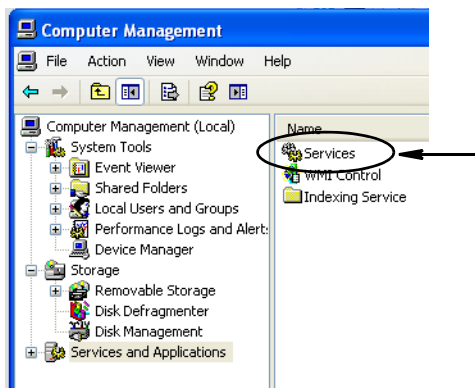

FIG. 55
- c. Double click on Services (FIG. 55).